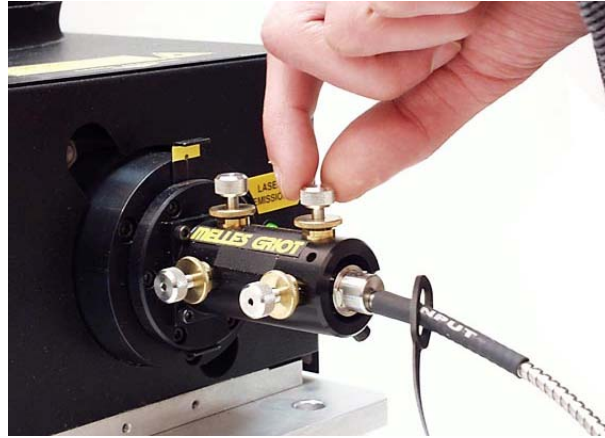

Fig. 8-2. Positioning the OTS input slot
5. The first stage of the adjustment is aimed at finding the proper position of the shutter in the XY plane. Carefully rotate the adjusting screws in pairs, vertical and horizontal (Fig. 8-2). Try to change the depth of twisting-in the screws in pair for the same value. Follow the spot on the display. The brighter is it, the more precise is the adjustment.